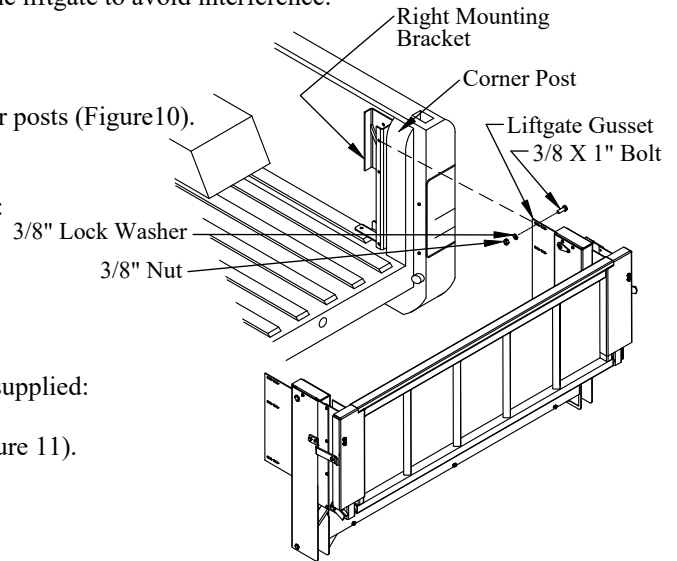

Figure 11: Mounting bracket and liftgate.
- (3) 3/8"x1" hex head bolts on the bracket-side (Figure 11).
- (3) 3/8" lock washers, and (3) 3/8" nuts on the gusset-side (Figure 11).